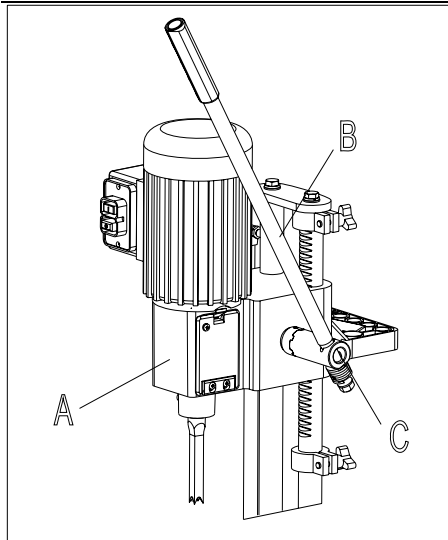

Fig 9
The head (A) Fig. 9, is raised and lowered by means of the lever (B). For maximum leverage during the mortising operation, the lever (B) can be repositioned by pulling out the hub (C) of the lever assembly and repositioning hub on the pinion shaft.